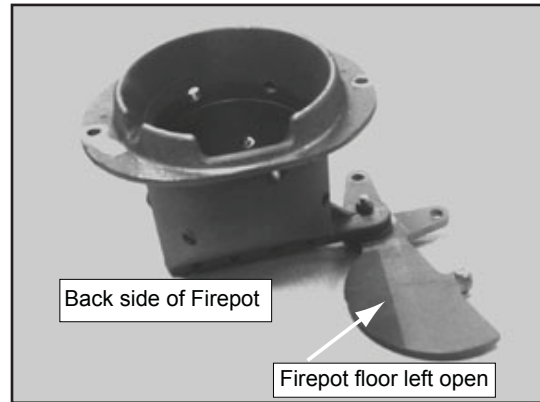

Figure 28.1 - DO NOT LEAVE FIREPOT FLOOR OPEN
- c. The firepot floor plate must be fully closed when finished. **See Figure 28.1 on page 28.**